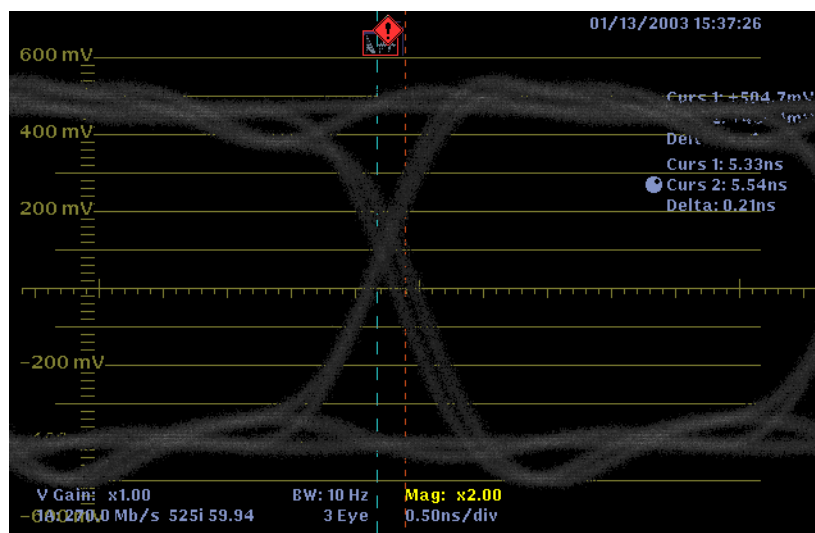

Figure 3-4: Timing Cursors alignment for measuring timing jitter
4. Position the timing cursors to measure the width of the Eye zero-crossing point (see Figure 3-4). If necessary, use the Gain and Sweep menus for better vertical and horizontal resolution.